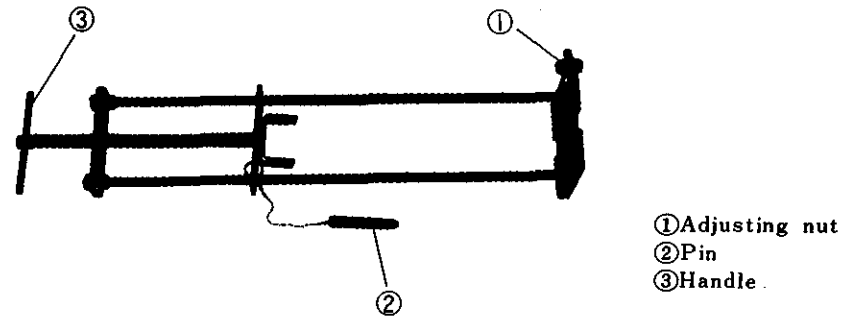
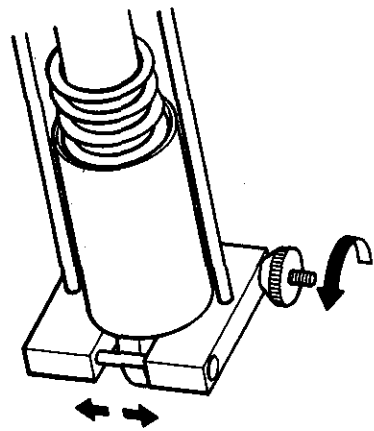
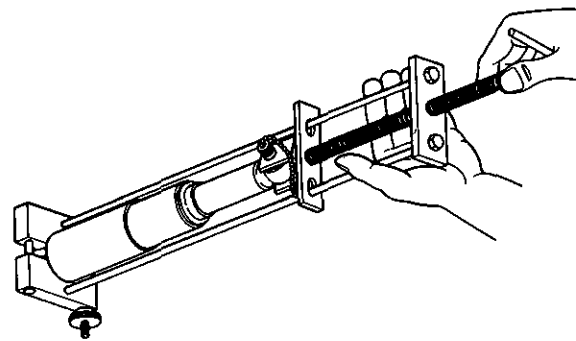

Fig.1
Fig.2
Fig.3
This tool is used to compress the rear cushion spring to remove or install the spring seat stopper, and to disassemble or assemble the rear cushion. (Fig.1)
- ① Set adjusting nut (Fig.1-①) to the outside diameter of the upper case of the rear cushion and fit onto the rear cushion. (Fig.2)
- ② Insert pin (Fig.1-②) into the top portion of the rear cushion to prevent rotation.
- ③ Turn handle (Fig.1-③) to compress the spring portion of the rear cushion, remove the spring seat stopper and disassemble.(Fig.3)
- ④ Reinstallation may be carried out by the same procedure.